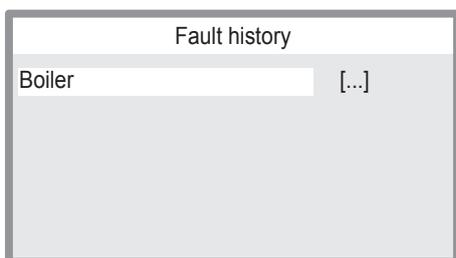

Figure 4.4
- 3 Press key "D" (Figure 4.1) to access the selected menu (Figure 4.4).
- 4 Press key "D" (Figure 4.1) again to highlight the value to be changed (Figure 4.4).